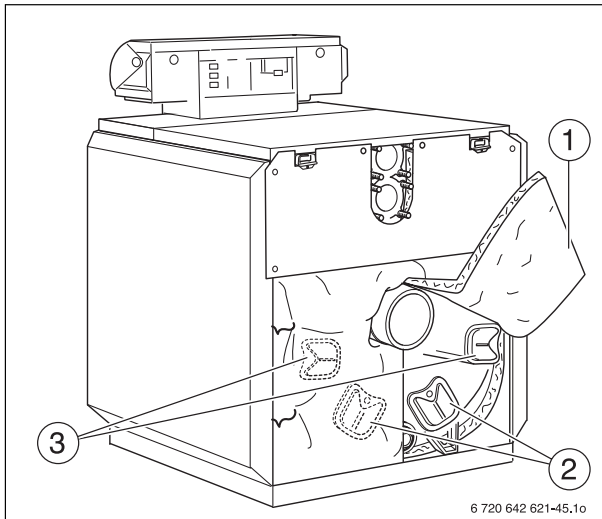

Fig. 59 Removing the cleanout cover
- ▶ Fold both ends of the thermal insulation up (Fig. 59, [1]) and fasten in this position with the spring hooks.
- ▶ Remove the cleanout covers from the rear section (Fig. 59, [2]) and on the draft diverter (Fig. 59, [3]).